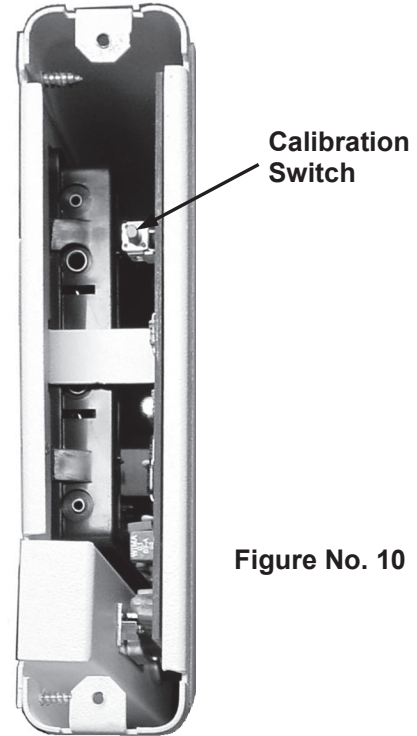

Figure No. 10
1. With the power off, remove the two (2) screws from the left end cap (as viewed from front of the indicator) and remove the end cap.
2. Locate the calibration switch on the circuit board and push it in. See Figure No. 10.